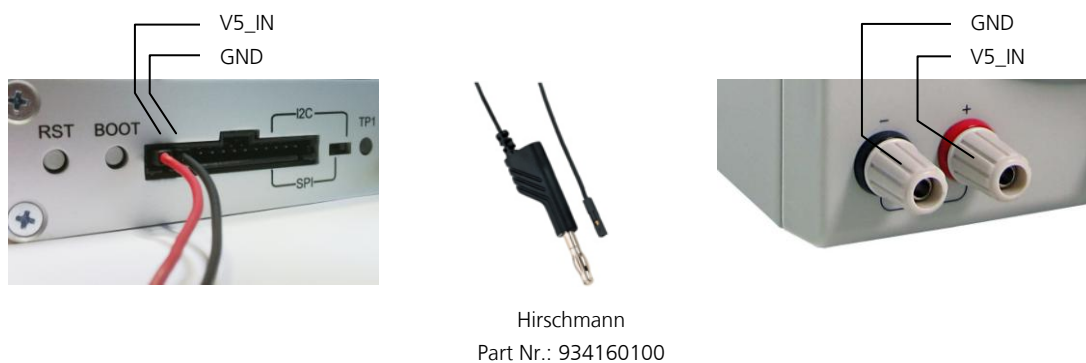
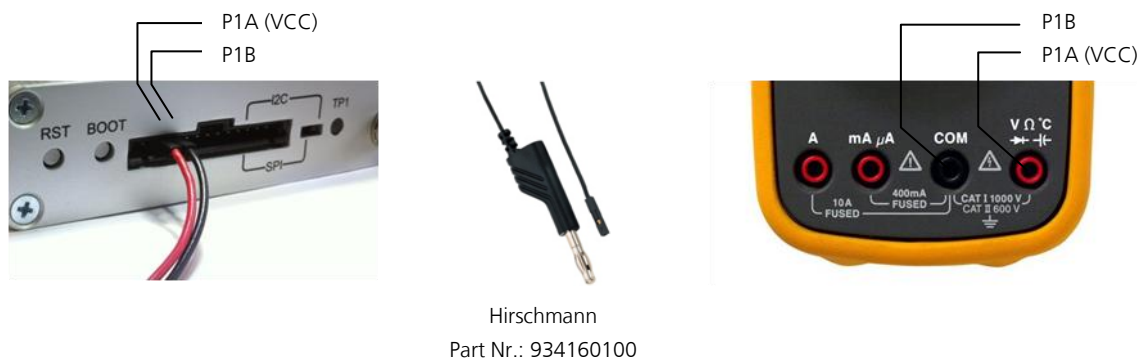

Figure 4: Example 5V DC power supply
Figure 5: Example – tracking current measurement
For accurate measurements, it is recommended to use a cable of at most 1 meter in length. Figure 4 shows an example of a power supply connected to the test connector by using standard adapter cables from the manufacture Hirschmann. Figure 5 shows an example for overall current measurement. When connecting the 3.3 V digital interfaces RS232, SPI and DDC to your application, a cable length less than 25 cm is recommended.
1. Connect a true RMS voltmeter across P1A (VCC) and P1B of the front connector. (see Figure 5)